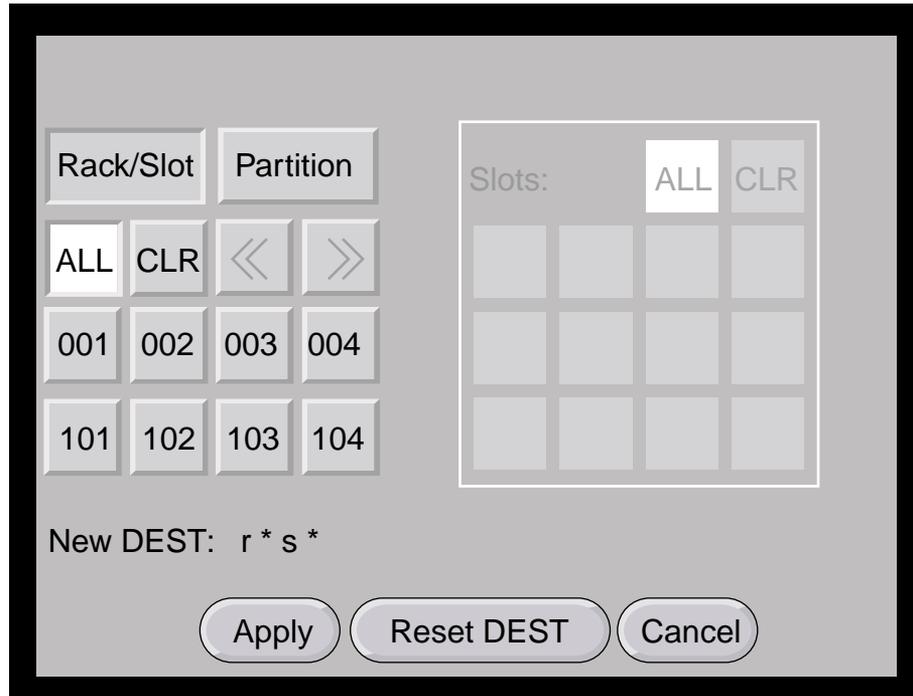

Figure 4-17 Destination Selection Window
2. Select the **DEST** button to select the bricks or partition you want to power on. The destination selection window, shown in Figure 4-17, appears.